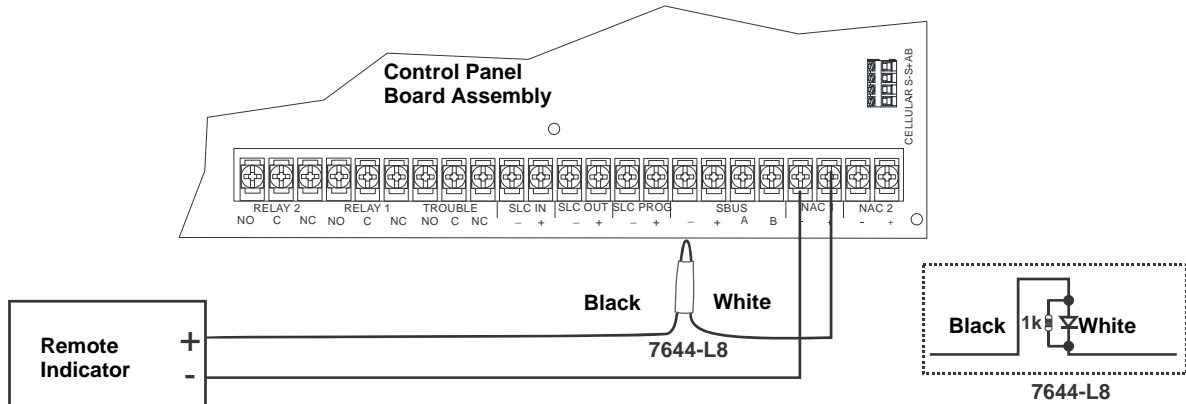

Figure 4.41 Polarity Reversal Connection Using the 7644-L8
1. Wire the 7644-L8 to the control panel as shown in Figure 4.41.